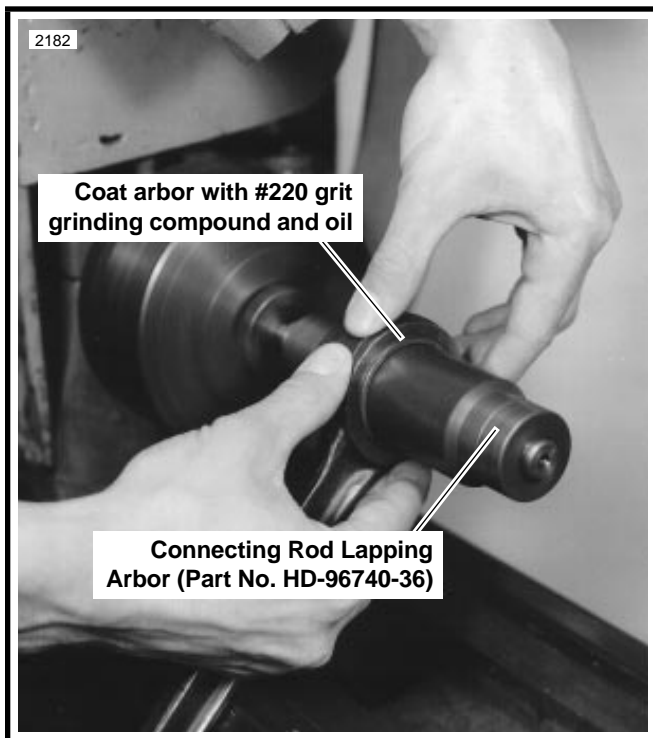

Figure 3-71. Lapping Connecting Rod Races
2. See Figure 3-71. Clamp lap into lathe chuck, carefully load lap with #220 grit grinding compound, mixed with oil. Adjust lathe to turn at approximately 150-200 RPM.